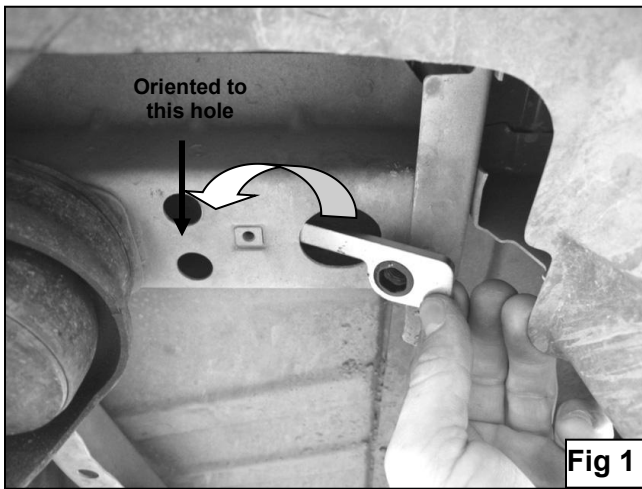

Fig 1
- From underside of vehicle, locate the three factory holes (one large, two small) in the driver side cross frame by the front body mount. With the welded nuts facing up, insert the smaller end of the driver side Double Nut Plate through large hole in the frame and orient it to front smaller hole (**Figure 1**).